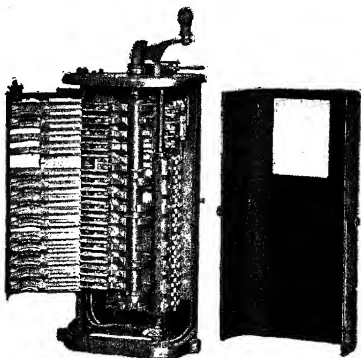

FIG. 228. General Electric drum controller for a street car.
**116. Series-Parallel Control for Electric Cars.** Most electric cars have at least two motors, which are of the series type. The controller shown in Fig. 228 is in the front of the car, and is operated by the motorman. It acts as a set of switches which throw out the starting resistances, etc. When the controller handle is advanced to the first notch, it places the two motors *A* and *B* in series with each other and with the starting resistance *SR*, as in Fig. 229. As the handle is advanced, it gradually cuts out the starting resistance until the car gets up a speed